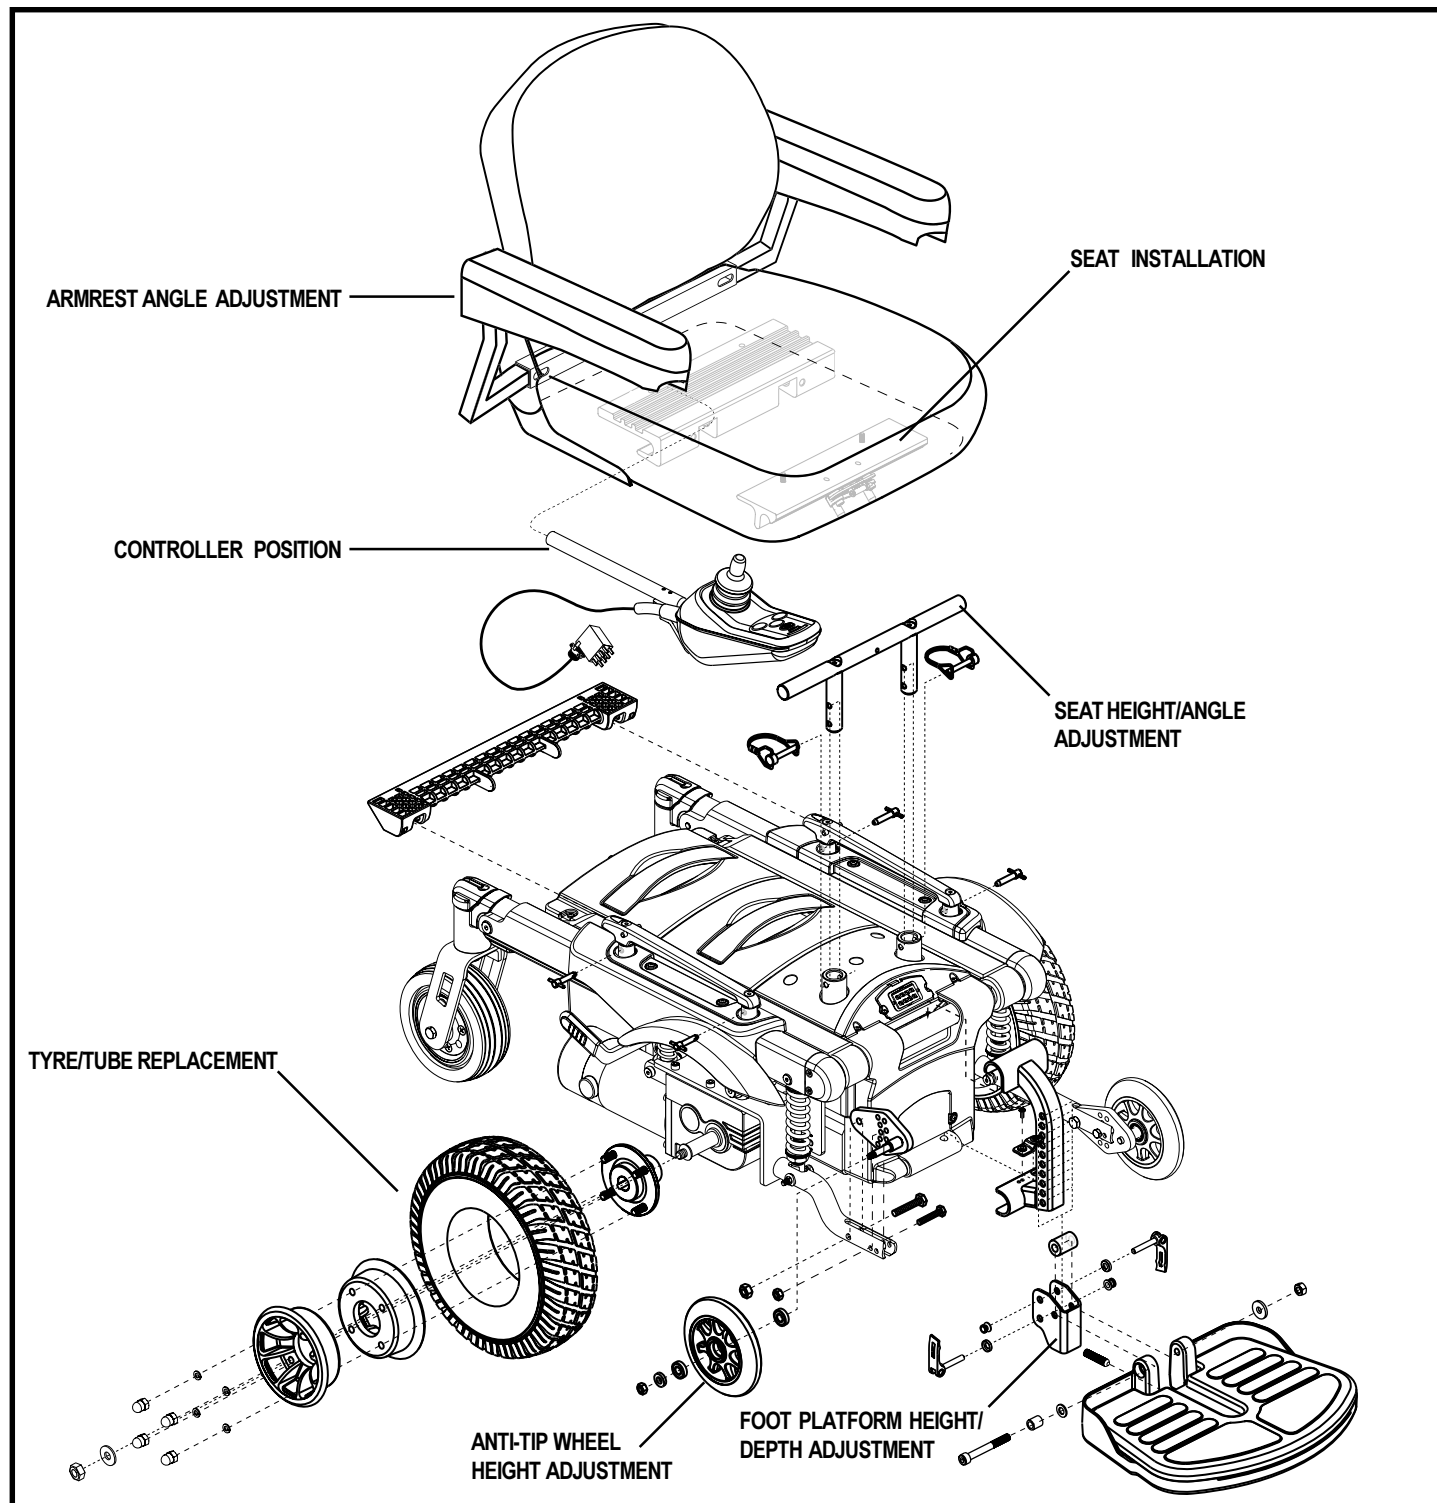

Figure 10. Quantum 1107 Assembly View
Your power chair may require some assembly either before initial use or after transportation. It may also require disassembly to make some comfort adjustments. Figure 10 details those parts of the power chair that are designed to be disassembled and assembled by an end user or by a qualified carer before using the product or making comfort adjustments.
6. Install the controller into one of the armrests. See figure 10.